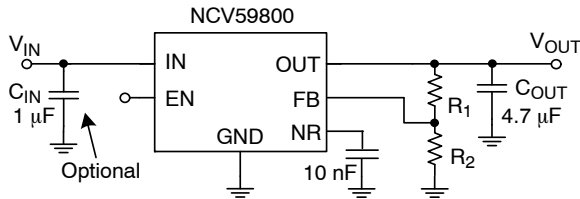

Figure 3. Typical Application Schematics
The NCV59800 regulator is equipped with Noise Reduction pin (NR) for noise sensitive applications. A noise reduction capacitor (C_{NR}) at the NR pin bypasses noise generated by the bandgap reference. This family of regulators offers sub-bandgap output voltages, current limit, and thermal protection, and is fully specified from -40°C to $+125^{\circ}\text{C}$, assuming resistors with zero error. For the actual design, pay attention to any resistor error factors. Figure 3 gives the Typical Application Schematics.